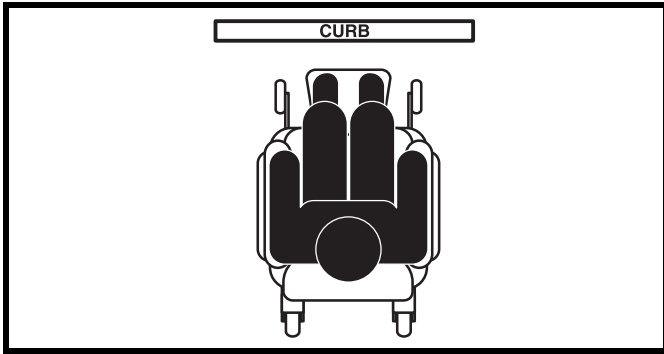

Figure 2. Correct Curb Approach
1. Approach the curb or obstacle slowly, and make sure the power chair is traveling perpendicular to the obstacle. **See figure 2.**